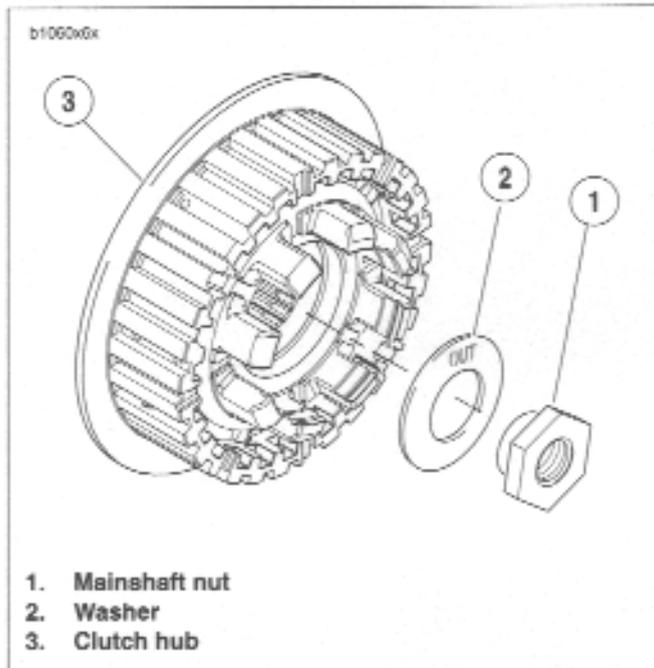

Figure 6-37. Mainshaft Nut and Washer
See Figure 6-37. Washer must be installed with the word "out" facing the mainshaft nut or transmission may be damaged.
4. See Figure 6-37. Install mainshaft nut and washer.